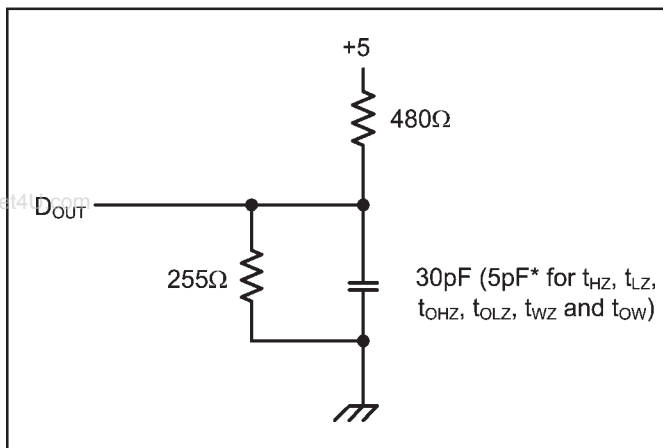

Figure 1. Output Load
8. Transition is measured $\pm 200\text{mV}$ from steady state voltage prior to change, with loading as specified in Figure 1.
Output Load	See Figures 1 and 2